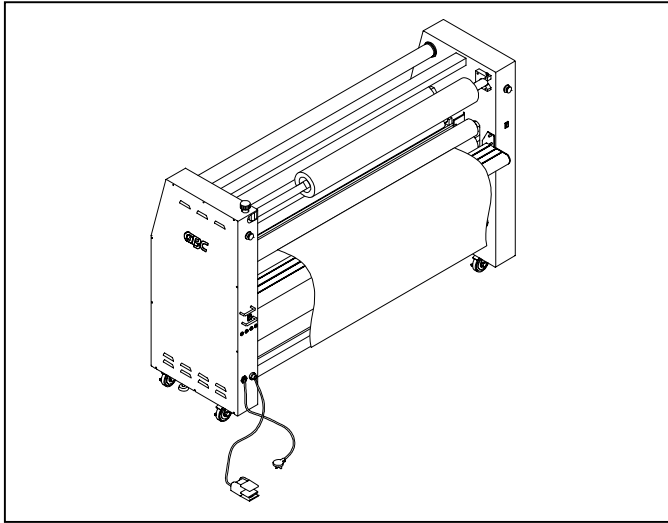

Fig. 3
3. The laminator should be positioned to allow exiting film to flow freely to the floor (Figure 3) or a work table. Accumulation of laminate immediately behind the laminator as it exits the equipment may cause the film to wrap around the pull rollers, resulting in a "jammed" condition.